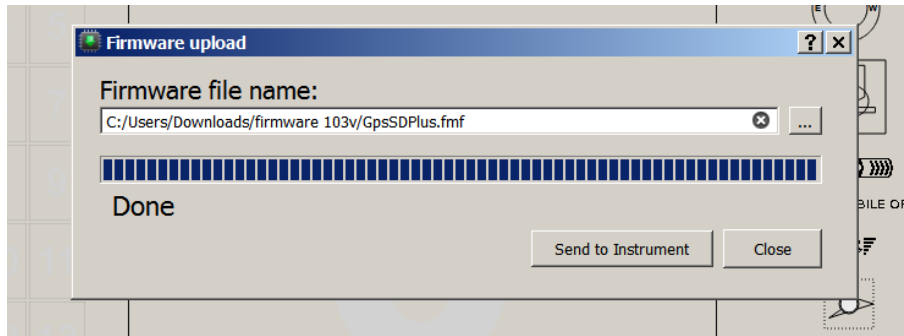

Figure 7.2: Firmware Update Done
6. When the process is finish the application shows a message saying *complete* (see Figure 7.2). Disconnect the USB cable and the GPS SD will start to work.